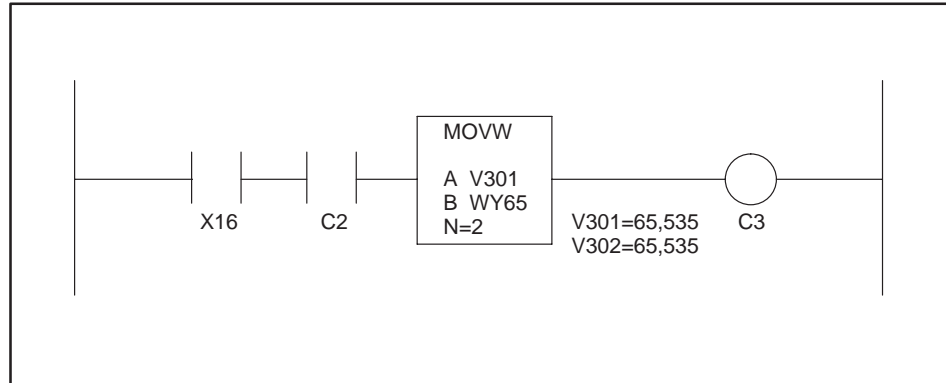

Figure 3-11 Enabling the Functions Loaded
5. The functions are enabled with the enable bits. WY65 and WY66 are set to all 1's with a MOVW instruction (see Figure 3-11).